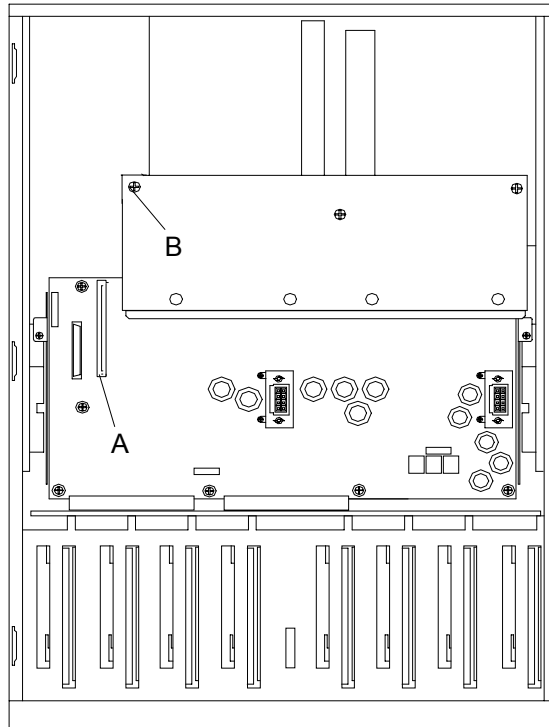

Figure 4-75. Preparing to Install the 2-Channel SCSI Board
11. Remove the socket cover (if present) from the 2-Channel SCSI Board connector, P2 (see Figure 4-75, A).
12. Remove the screw (see Figure 4-75, B) securing the top left corner of the power supply cage (as viewed from the front of the DEU). Keep this screw for later use.